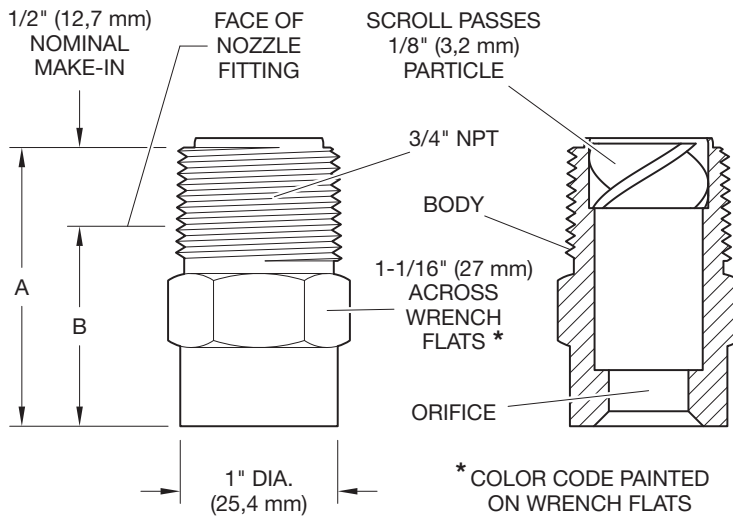
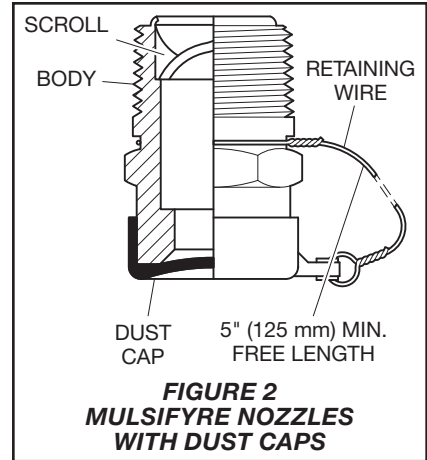

FIGURE 1
FIGURE 2
The Mulsifyre Nozzles are open (non-automatic) nozzles and they are designed for use in water spray fixed systems for fire protection applications where a high velocity water application may be required. There are two configurations: the basic Mulsifyre Nozzle shown in Figure 1 and the Mulsifyre Nozzle with Model F880 Dust Cap shown in Figure 2. Each configuration is available in six different models that provide a wide range of orifice sizes and water distribution characteristics.
Refer to Figure 1
Step 2. Tighten the nozzle into the nozzle fitting using an adjustable crescent wrench. With reference to Figure 1 apply the adjustable crescent wrench to the nozzle wrench flats.
When replacement Dust Caps are installed, there is to be a minimum of 5 inches (125 mm) of Wire (Ref. Figure 2) between where the Wire is looped around the nozzle thread relief and attached to the Dust Cap. The minimum length of 5 inches (125 mm) will help to assure that there will be an unrestricted flow from the nozzle outlet during operation.